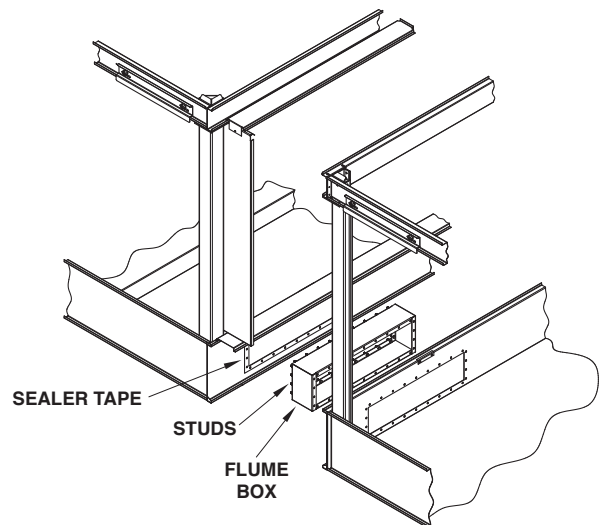

Figure 8 – Equalizer Flume Assembly, 17' & 24' (4.9 - 5.3 & 7.3 m) Wide Models
2. Mating flanges which will make contact with others should be cleaned to remove dirt, grease and moisture. Apply a layer of sealer tape on one side panel centered over the flume box holes as shown in Figure 8. Remove paper backing strip from the sealer tape.
6. Align the bolt holes in the equalizer flume and equalizer opening with drift pins while drawing the second basin section against the first as shown in Figure 8.
9. Place the drip channel over the adjoining pan section flanges. Secure by installing 5/16" (8 mm) self-tapping screws through the retaining clips into the side panel. For stainless steel construction, secure by installing 1/4" (6 mm) stainless steel bolts through the retaining clips into brass rivnuts secured in the side panel. (See figures 8 & 9.)